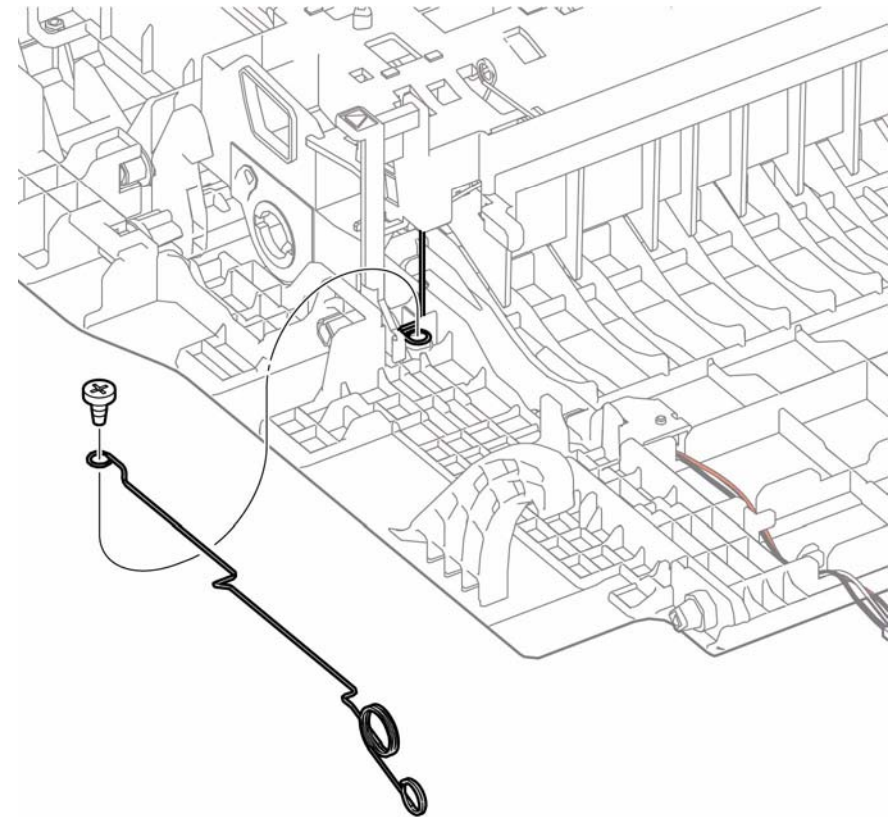

Figure 3 Secure the Rear Cover Ground Springs
1. Refer to Figure 3 to locate and install the right side and make sure the ground spring engages the hook on the chassis.